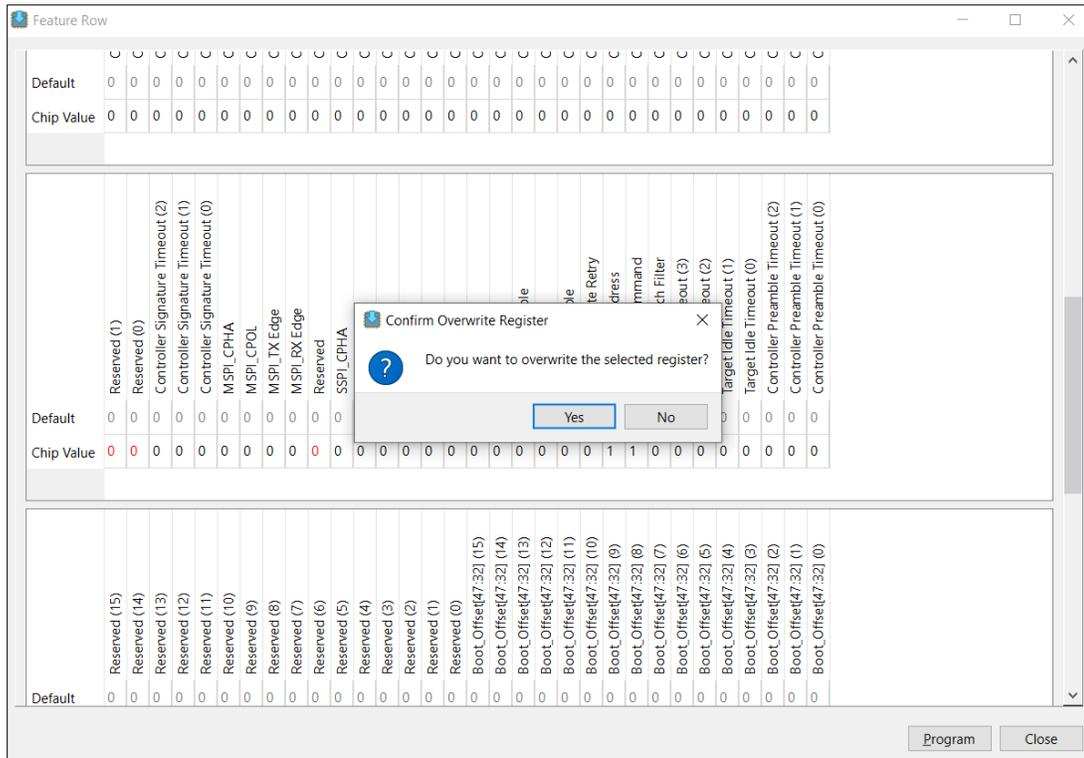

Figure 7.5. Confirm Overwrite Register
8. The Confirm Overwrite Register window appears and Click **Yes** (Figure 7.5).